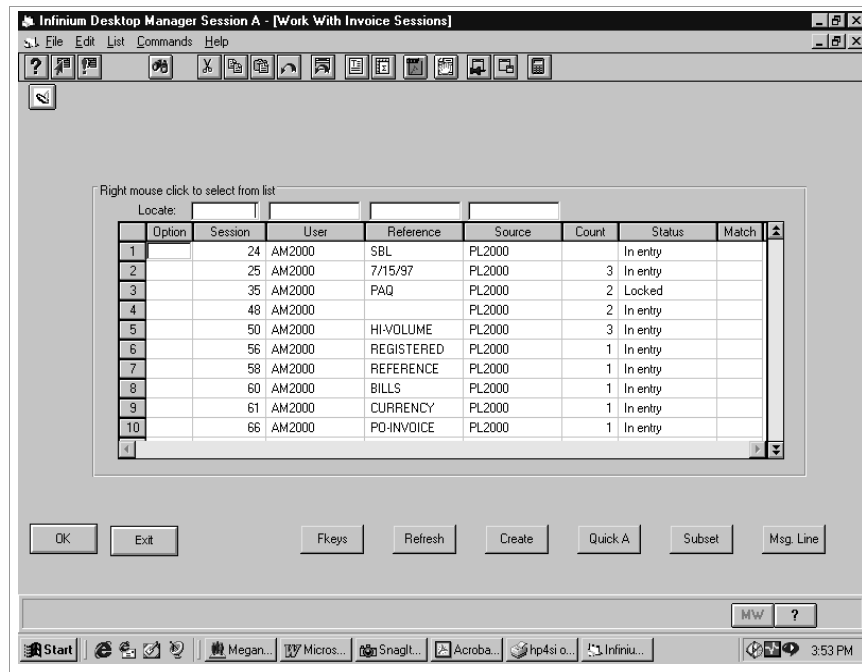

Figure 6-1: Work With Invoice Sessions screen
- 2 Select *Work with invoice entry* [WWI]. The system displays the screen shown in Figure 6-1.